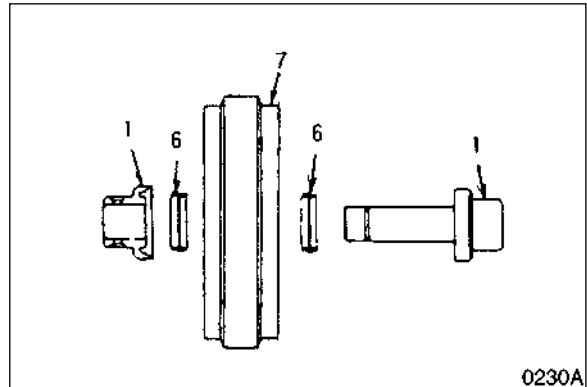

Figure 28
4. Install group seal (6, Figure 28) inside the idler (7) and bearing (1).